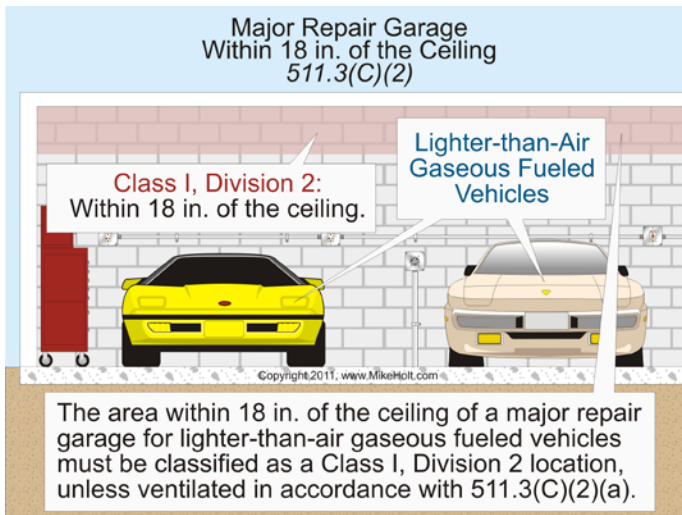

Figure 511-2
**(2) Ceiling Areas.** If vehicles fueled with natural gas or hydrogen are repaired or stored, the area within 18 in. of the ceiling is classified in accordance with (a) and (b). **Figure 511-2**